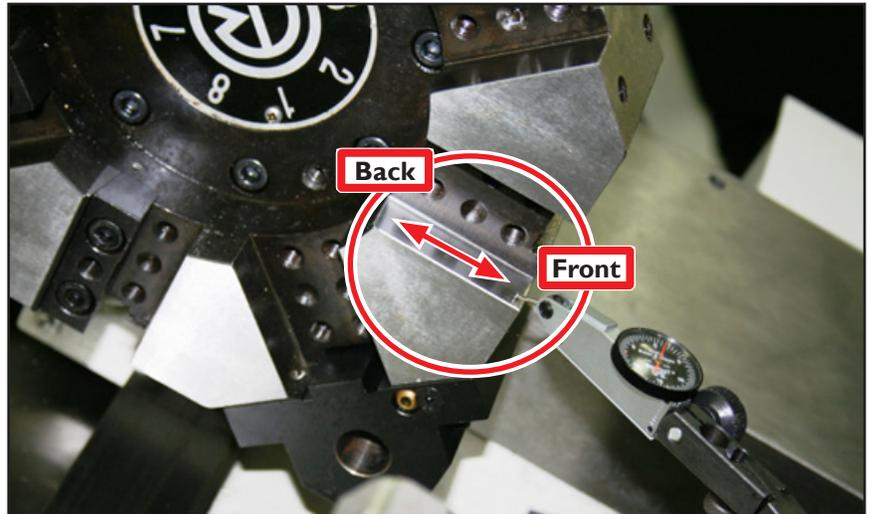

Figure 24
- Using a dial indicator, ensure the cutting position tool pocket (i.e., pocket slated for tool insertion) is level to the X axis (see **Figure 24**). Do this by zeroing the dial indicator at the back of the pocket and then jogging to the front of the pocket. Use this measurement to calculate the amount of level adjustment required (by adding or removing shims). For example, if the dial indicator reads $-.004$ ", divide that figure by two, which equals $.002$ " – the amount of shim correction required for the front of the turret. If the dial indicator reads zero from back to front, no extra shimming is required (for this step); proceed with step 2. Jot down this number for use in step 5. Also refer to the Calculating Shim Adjustments table (below).